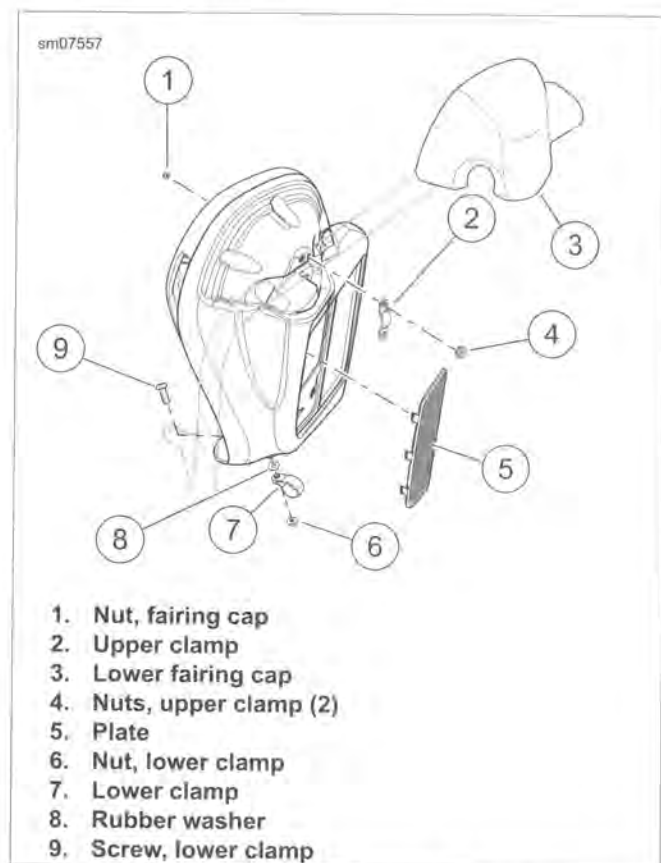
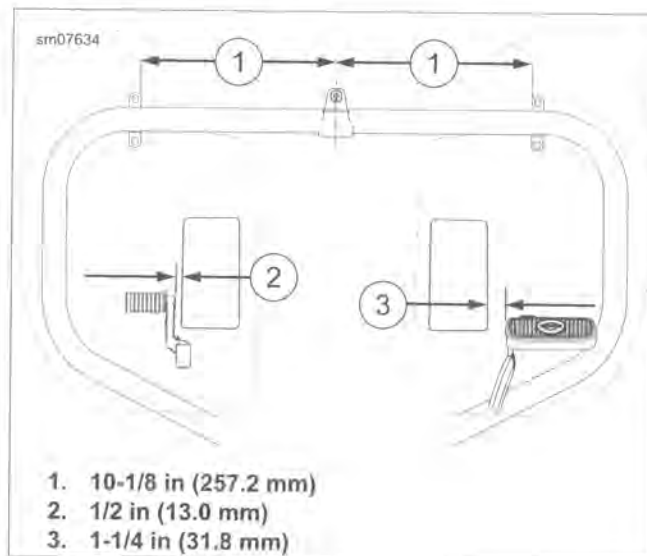

Figure 2-129. Lower Fairing: Air Cooled
Figure 2-130. Lower Fairing Mounting Dimensions
2. See Figure 2-129. Remove flange nut (1) securing lower fairing cap (3). Remove fairing cap.
3. Remove lower fairing clamp screw (9) and nut (6). Discard rubber washer (8).
4. Remove flange nuts (4) securing upper clamp (2). Remove lower fairing assembly.
2. See Figure 2-129. Install upper clamp (2) and two flange nuts (4). Leave fasteners loose.
3. Install **new** rubber washer (8), clamp (7), screw (9) and nut (6). Leave fasteners loose.
4. See Figure 2-130. Align upper clamp to dimension (1).
5. See Figure 2-129. Tighten flange nuts (4) to 40-45 in-lbs (4.5-5.1 Nm).
See Figure 2-130. Verify shift lever and brake pedal do not contact fairing lower vent. Clearance from the vent openings to the shift lever (2) and brake pedal (3) should approximately match the distance shown.
6. See Figure 2-129. Verify that fairing lower is aligned. Tighten lower screw (9) to 90-100 in-lbs (10.2-11.3 Nm).
7. Install fairing lower cap (3) with flange nut (1). Tighten to 40-45 in-lbs (4.5-5.1 Nm).
- a. See Figure 2-129. Carefully pry on curved edge of grille plate (5) to release retainers.